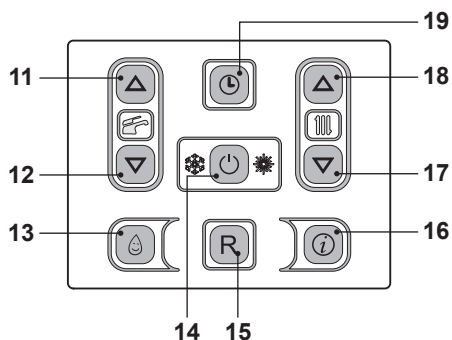

Fig. 2.9
- Press the key 14 for 2 seconds until the  symbol appears on the display Fig. 2.9.
The output temperature of c.h. water can be adjusted by acting on keys 17 (reduce) and 18 (increase) (Fig. 2.9) from a minimum of about 25°C to a maximum of about 85°C. Press one of the two keys once to display the "set" value. Press again to access the modification.
In this case the boiler must be set by a qualified installer (see "Setting the K coefficient of the external temperature probe" to page 67). However, if the ambient temperature is not comfortable, the flow temperature of the heating plant can be increased or reduced by  $\pm 15^\circ\text{C}$  by acting on keys 17 (reduce) and 18 (increase) (Fig. 2.9).
The heating temperature of the zone valve controlled by a thermostat is configured on the boiler control panel using keys 17 and 18 Fig. 2.9.
The temperature of the d.h.w. can be adjusted by acting on keys 11 (increase) and 12 (reduce) (Fig. 2.9) from a minimum of about 35°C to a maximum of about 60°C. Press one of the two keys once to display the "set" value. Press again to access the modification.